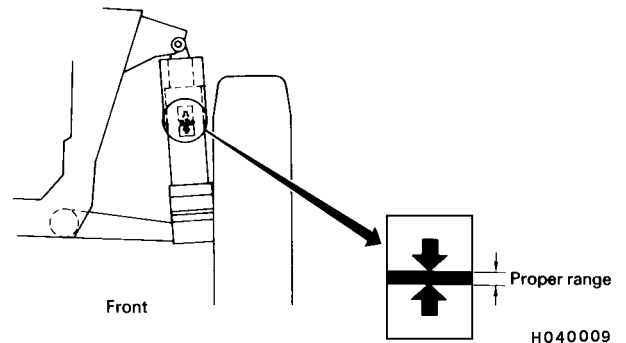

FIGURE 4-1. FRONT SUSPENSION HEIGHT
2. Check that the bottom of the cylinder cover is within the range marked by arrows (Figure 4-1) for correct nitrogen charge.